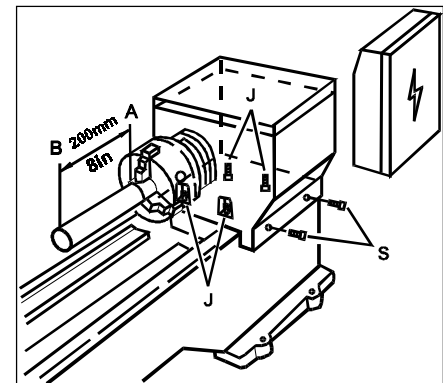

Fig. 26
6. If the measurements are not the same and adjustment is required, loosen the bolts (J, Fig.26) that hold the headstock to the bed. Do not loosen completely, some drag should remain.
7. Adjust two screws (S, Fig.26) located on the backside of the headstock just above the motor mount bracket and make another cut. Keep adjusting screws after each cut until the bar stock measurements are the same. Tighten all headstock screws and jam nuts on adjusting screws